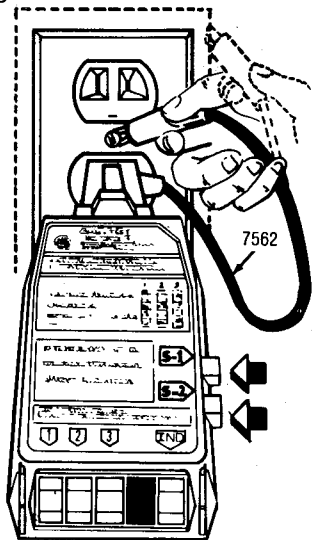

Figure 18
- Step 6. Plug the 7562 Probe into the outlet (Fig. 18).
- Step 7. Press the black (S-1) (IN).